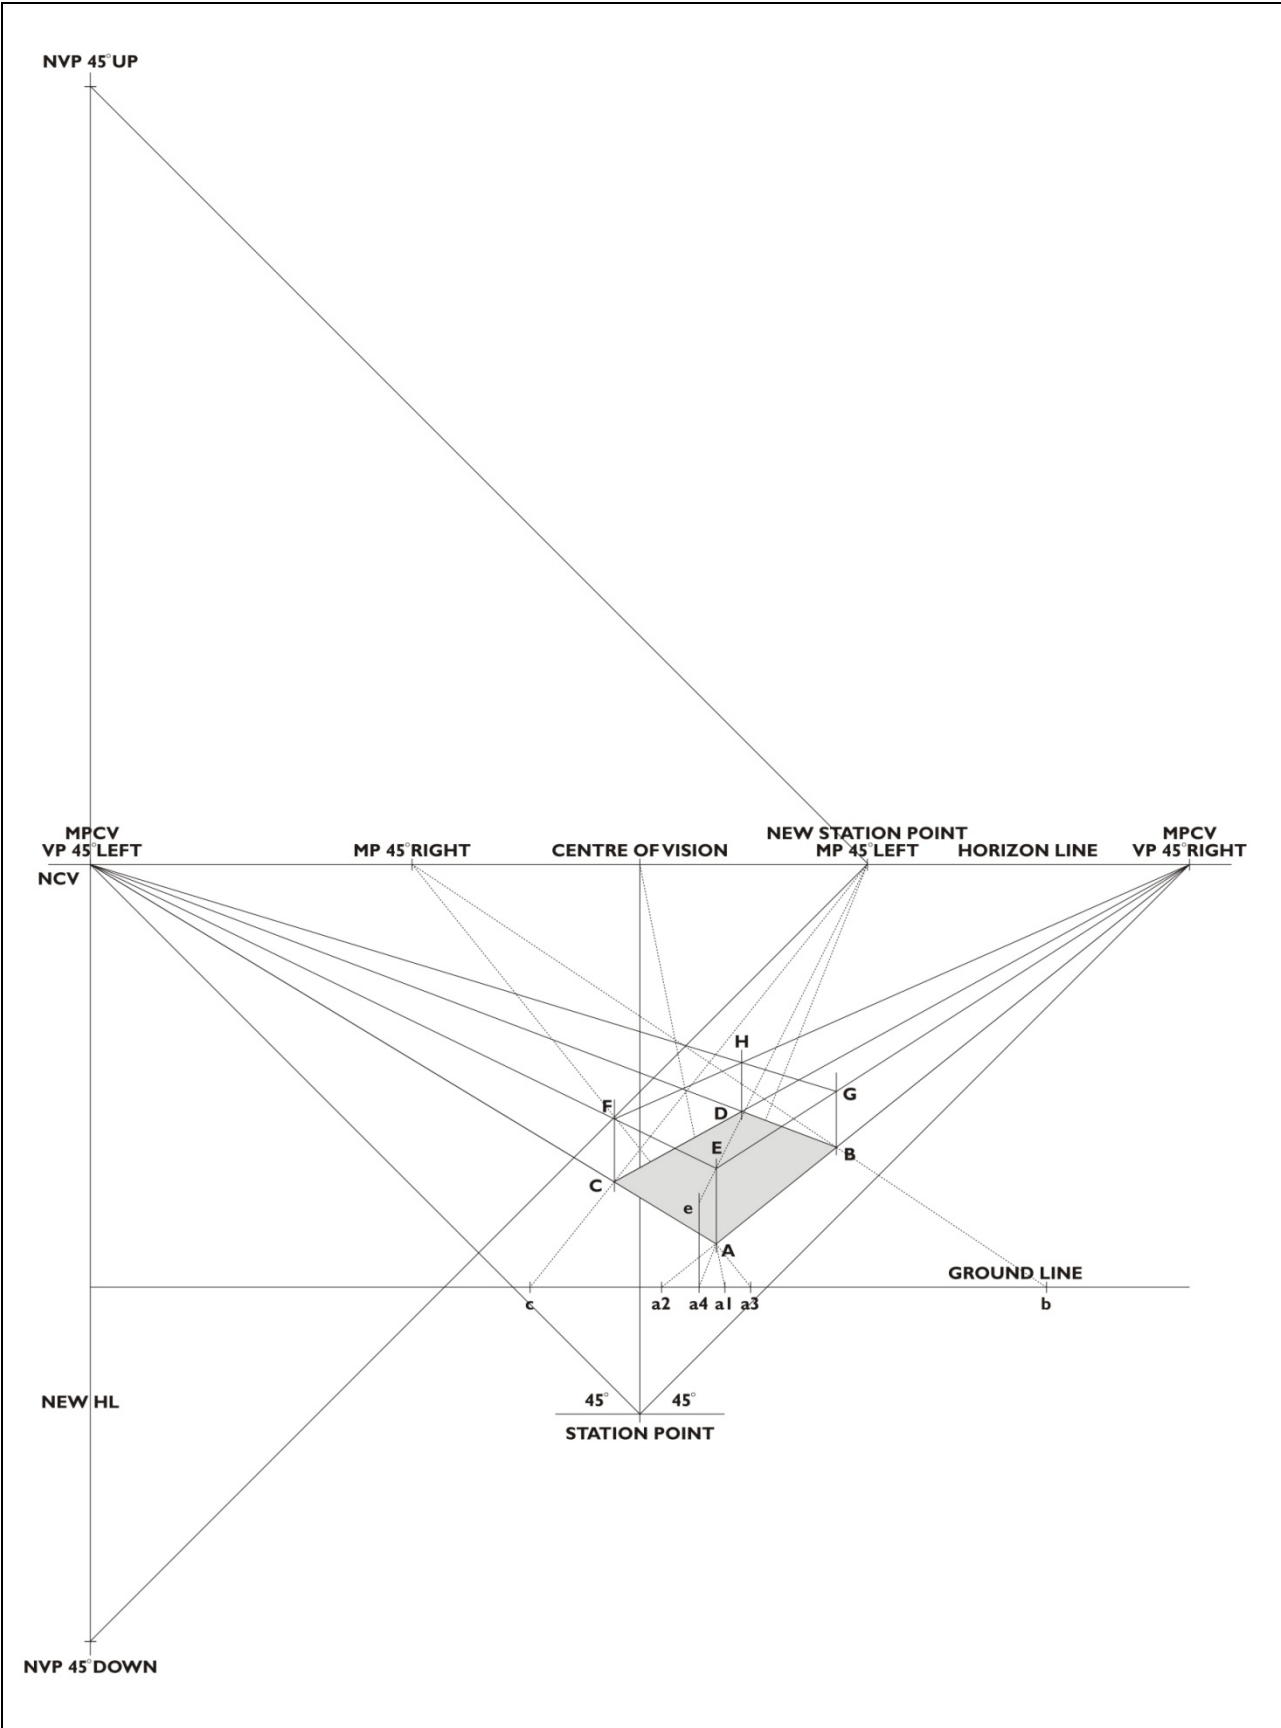

Figure 4.9 Three-point perspective establish top of box
1. To create the height of the box from the ground line, draw a line from point a4 vertically and measure 20mm to create point e. Refer to Figure 4.9 for information.